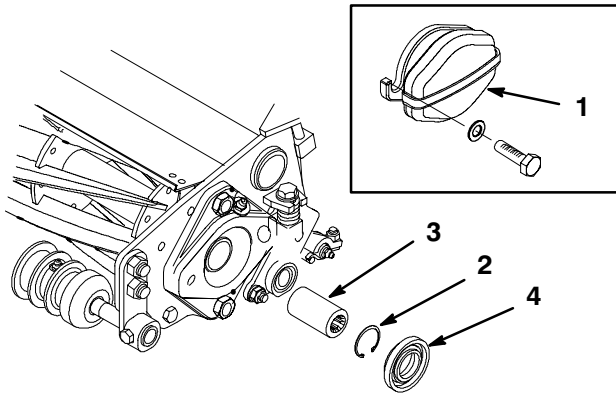

Figure 10
A. Remove the 2 capscrews and washers securing the counter weight to the left end of the cutting unit. Remove the counter weight (Fig. 10, inset).
B. Remove the plastic spacer at both ends of the cutting unit (Fig. 10).
D. Apply grease to the inside diameter of the drive coupler. Install the drive coupler to the left end of the cutting unit with a snap ring (Fig. 10).